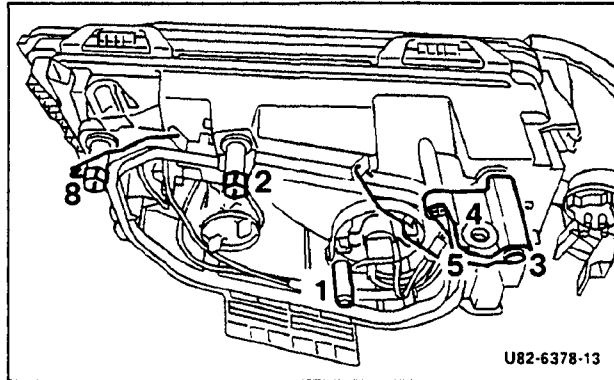

Figure 4 Model 124
Turn adjustment screw (2) until air bubble in the level (1) is centered on the "0" mark (Figure 4).